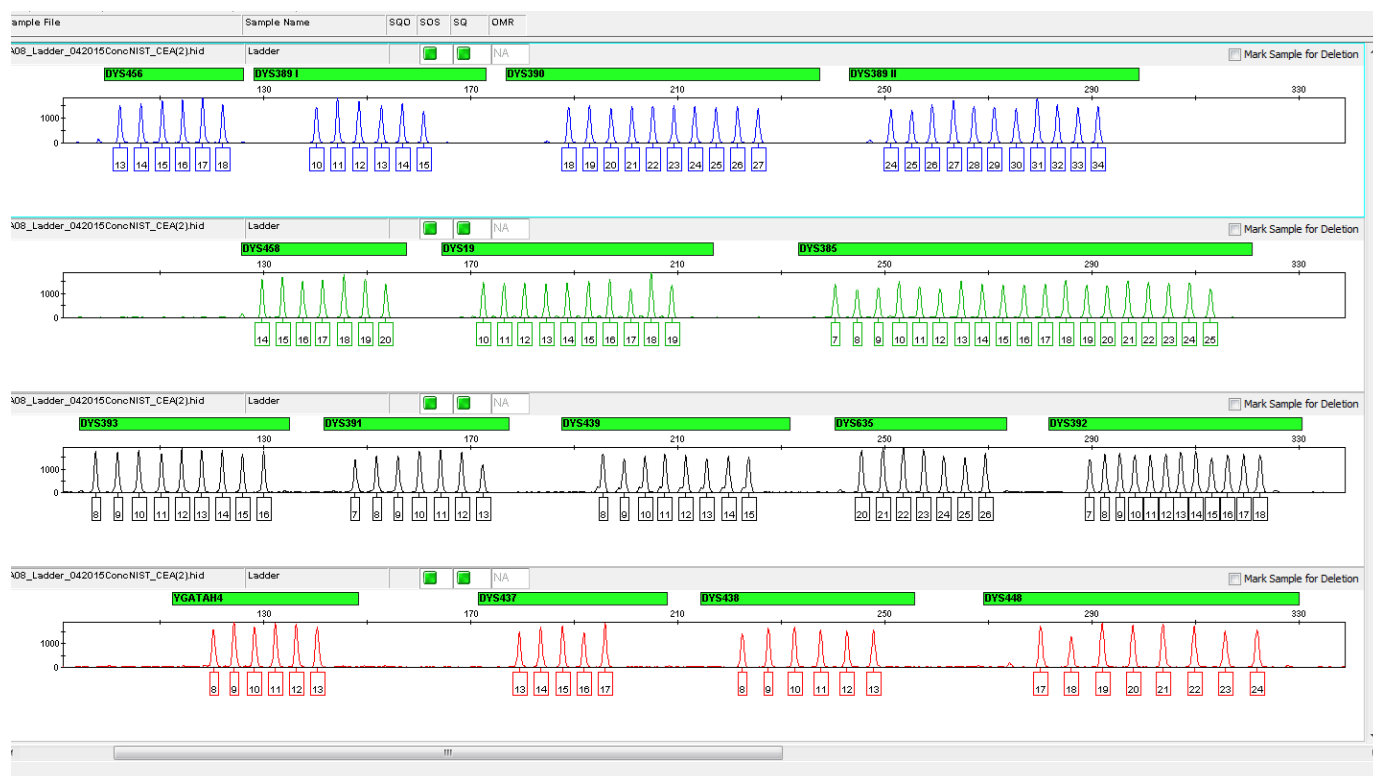

Figure 2. AmpflSTR® Yfiler™ Allelic Ladder
3.3.2 Verify that the allelic ladder is called correctly for each locus. Figure 2 represents an example of an AmpflSTR® Yfiler™ allelic ladder.